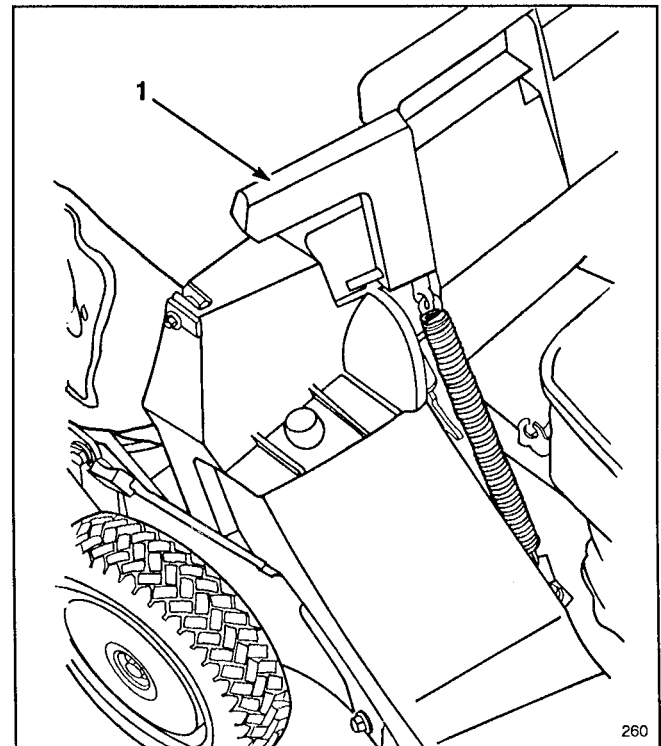

Figure 14
4. Pull discharge door handle forward until pin clears catch and move handle rearward until pin locks in bag notch (Fig. 14). Discharge door in mower housing is now open.